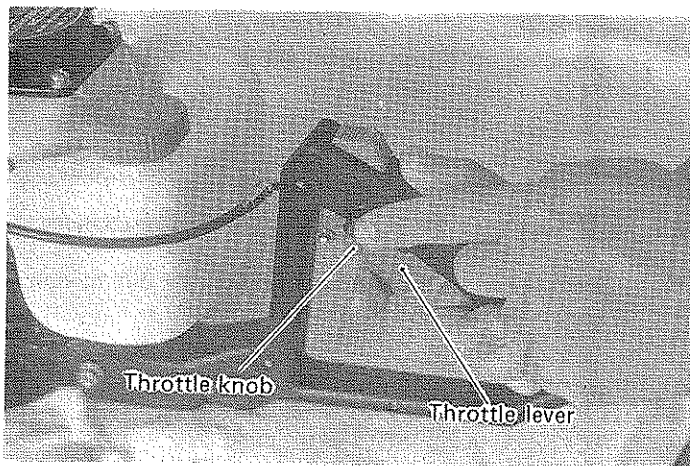

Figure 3
3. Pull the throttle lever a little, push the throttle knob and lock the throttle lever at the starting position. (Figure 3)